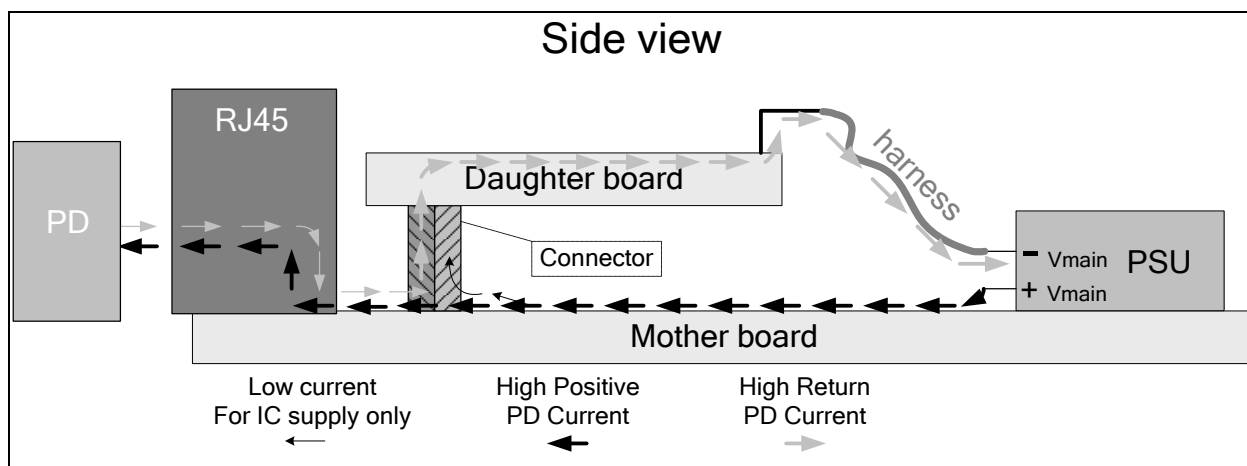

Figure 19: Component Identification for PD69208 Circuitry
- ♦ The power and return (ground) planes for the 48V supply must be designed to carry the system maximum continuous current, based on the design capacity. Minimize DC power losses on these planes by using a wide copper lands. When implementing the PoE circuitry on a daughter board, the high current does not have to be routed through the daughter board but only the return path as can be note from Figure 19
See Figure 19